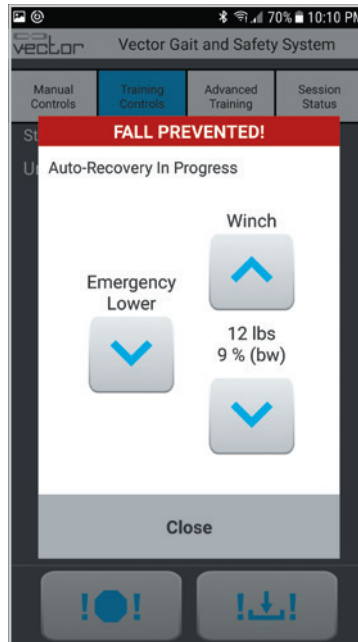

Figure 9-12: Auto Recovery Dialog Box
A Fall Prevention window will be displayed indicating that Auto Recovery is in progress. See Figure 9-12.
3. The clinician can cancel the Auto Recovery feature at any time by pressing the manual winch up or down button on the Fall Prevention window. See Figure 9-12.